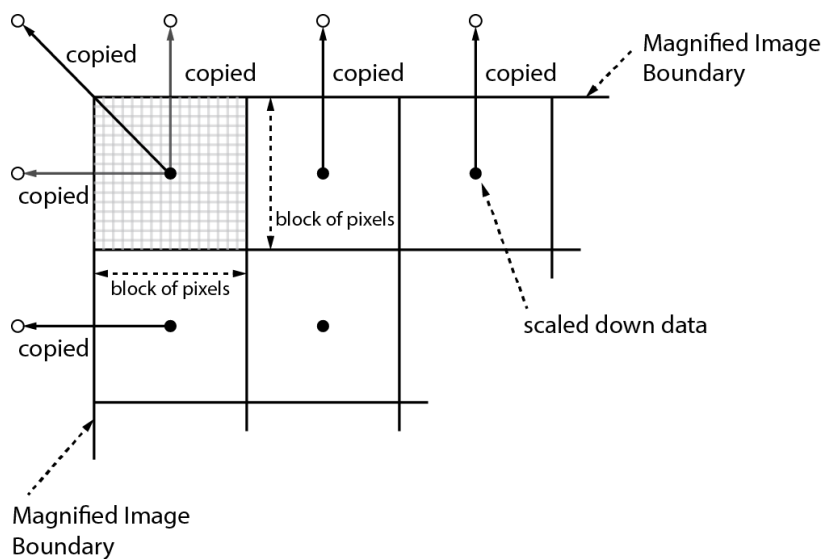

Figure 9-8 Bilinear Interpolated Magnification
3. Execute the **Flat Field Data Save** parameter to save the generated Flat Field data into the non-volatile memory. When the scaled down Flat Field data are used for correction, they are expanded and applied with a Bilinear Interpolation as shown in the **Figure 9-8**.